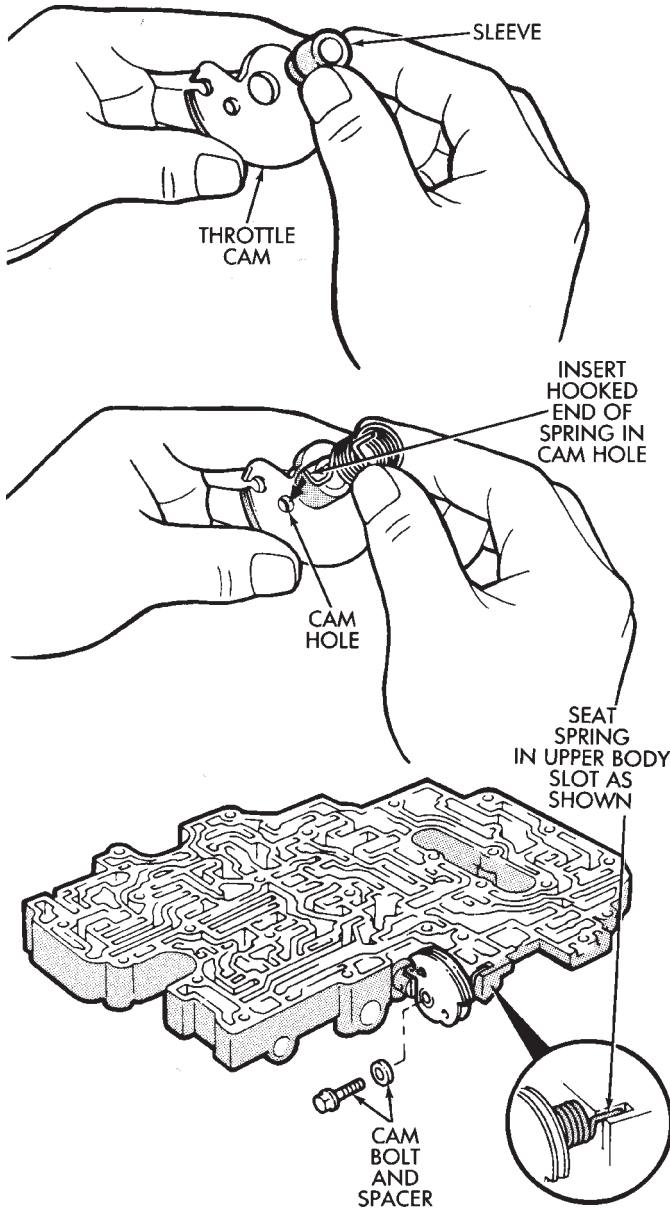

Fig. 20 Installing Throttle Cam J8921-663
(15) Install sleeve in throttle cam (Fig. 20).
(16) Install spring on cam (Fig. 20). Hook curved end of spring through hole in cam as shown.
(17) Mount cam on upper body and install cam attaching bolt and spacer (Fig. 20). Tighten bolt to 10 N·m (7 ft. lbs.) torque.
(18) Be sure straight end of spring is seated in upper body slot as shown (Fig. 20).